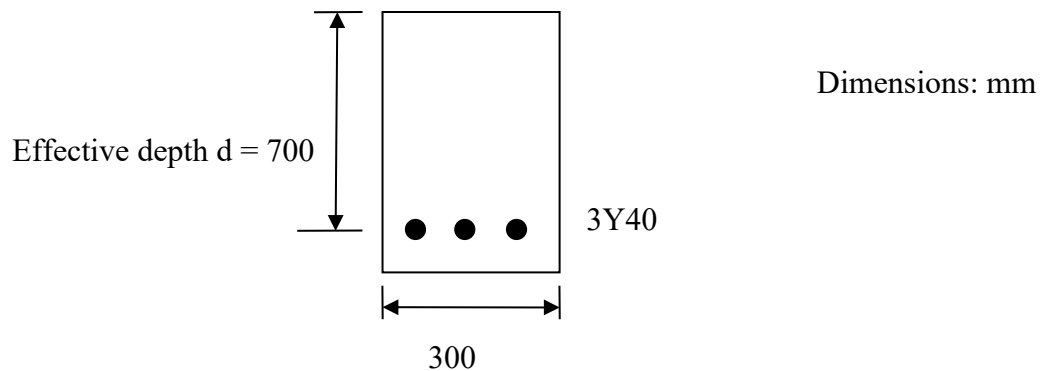
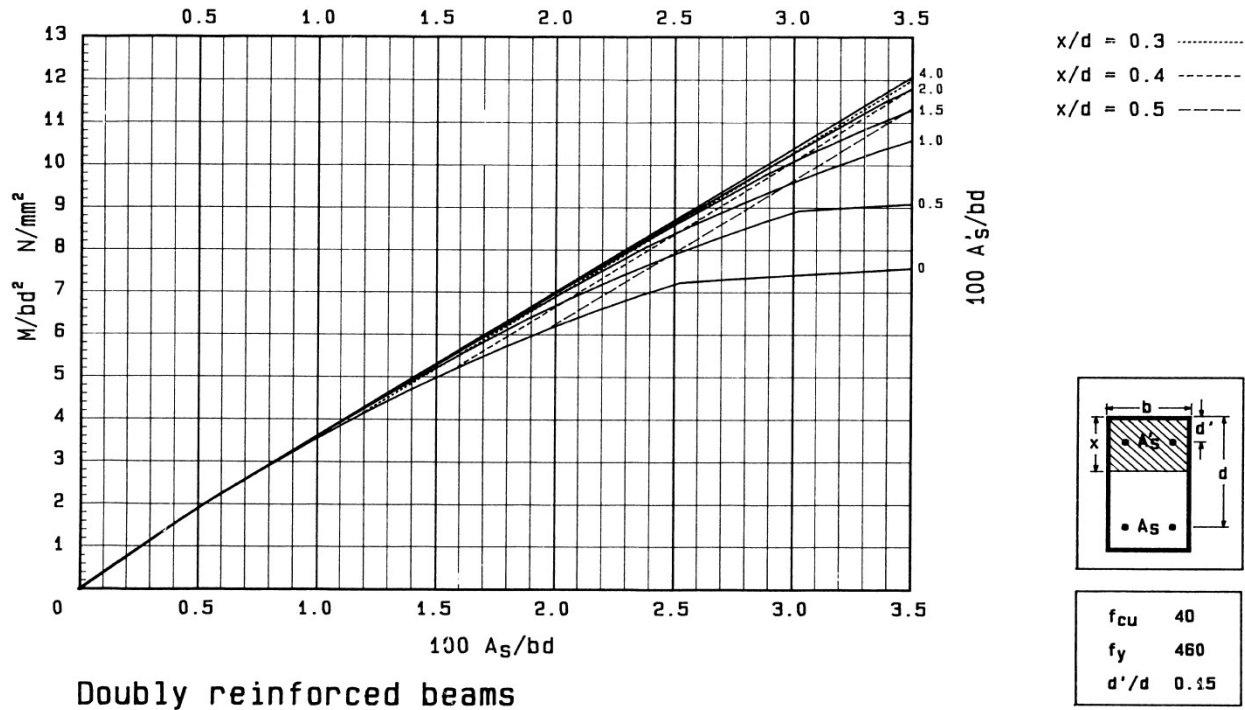

Figure 1.1: Rectangular Reinforced Concrete beam
Figure 1.2: Beam design chart - ultimate limit state (BS 8110)
- (a) Determine the ultimate moment of resistance M_u of the R.C. beam section Figure 1.1 using the design chart Figure 1.2.